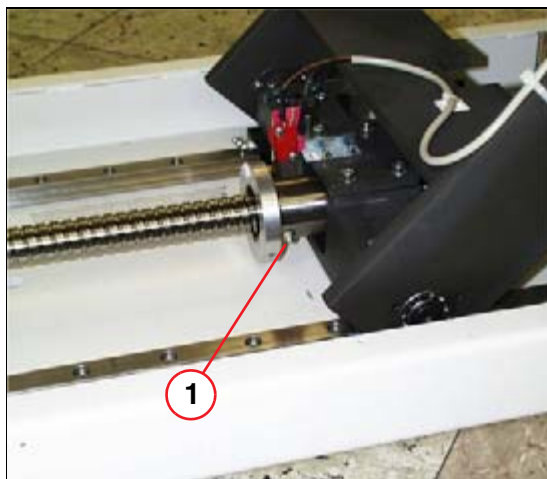

Fig. 1: Spindle: location of grease nipple
- Place the connector of the lubricant gun on the lubrication fitting of the spindle nut (1/ Fig. 1 / p. 27).